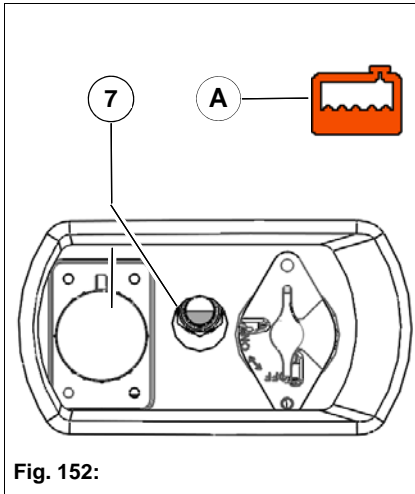

Fig. 152:
Check the coolant level at the sight glass **Fig. 152-7** at regular intervals and refill as required. Maintenance intervals according to maintenance plan, see page 167. The sight glass is located on the left-hand side of the vehicle behind the vehicle cab. The warning symbol **Fig. 152-A** appears in the indicating device if the coolant level is too low.
3. If no coolant can be seen in the sight glass or the warning symbol **Fig. 152-A** lights up in the indicating device, coolant must be topped up.